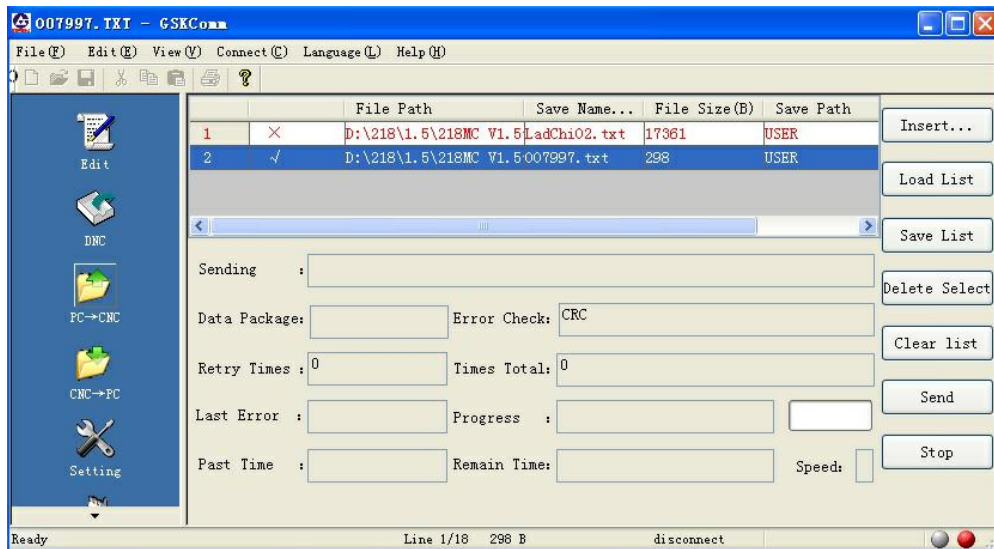

Fig.11-2-2-7
7、After sending, the dialogue status bar shows “sent”, as shown in Fig.11-2-2-8